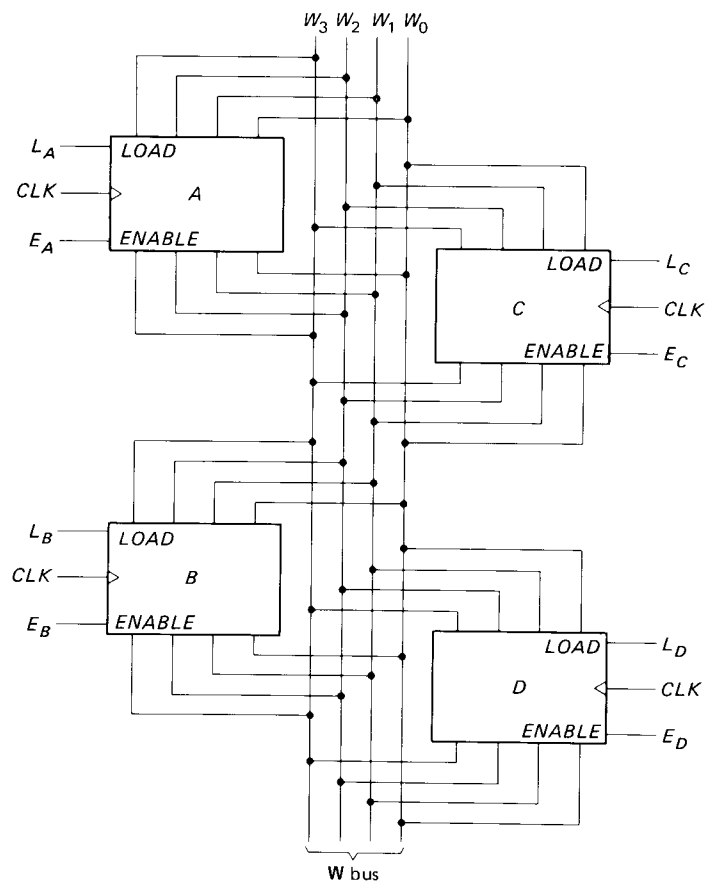

Fig. 8-34
- 8-18. In Fig. 8-34, we want to transfer the contents of register D to register C. Which are the *ENABLE* and *LOAD* inputs you should make high?